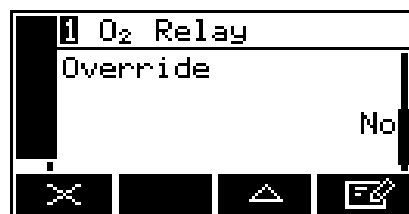

Figure 90 – The relay override action screen
3. Scroll to the relay override screen (Figure 90).